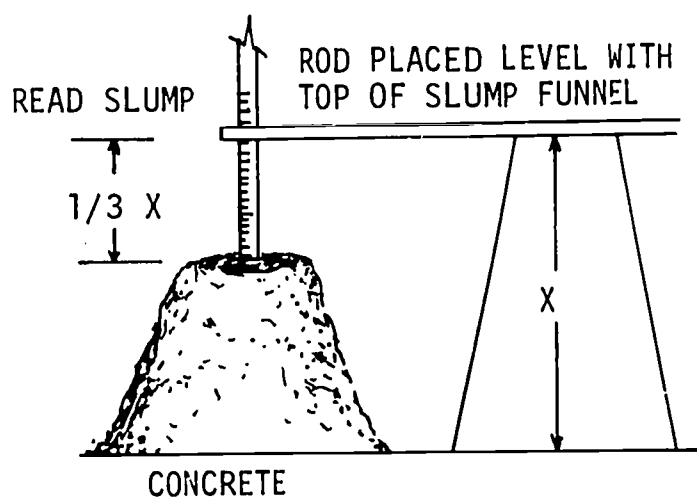

Fig. 73-1. Slump Cone Test
- 2) Measure the distance between the top of the cone and the center of the top of the concrete specimen. See Fig. 73-1.